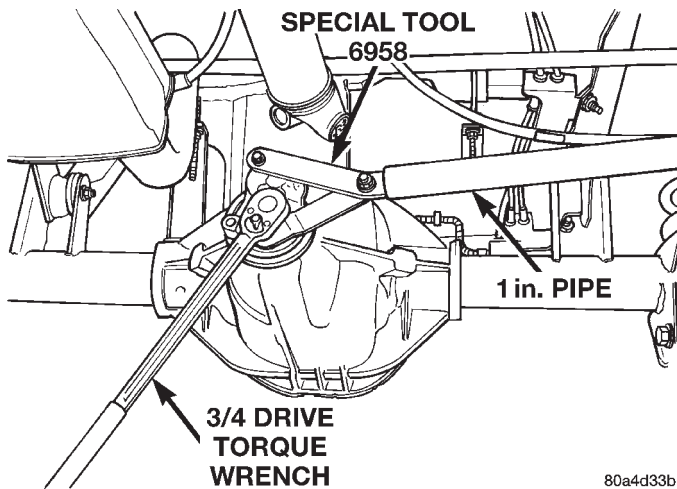

Fig. 23 Tightening Pinion Nut
(8) Using yoke holder 6958, a short length of 1 in. pipe, and a torque wrench set at 380 N·m (280 ft. lbs.), crush collapsible spacer until bearing end play is taken up (Fig. 23).